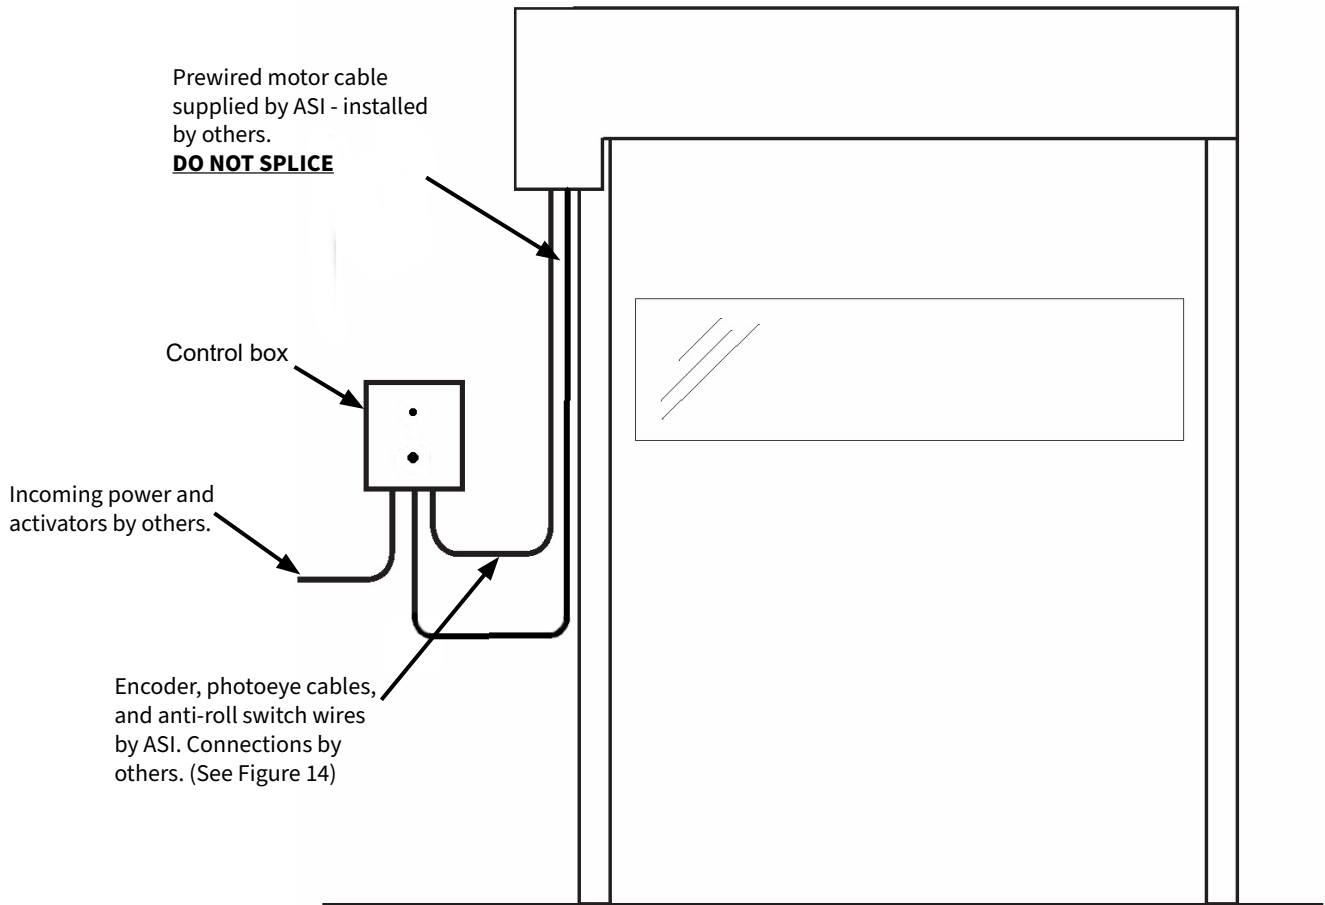

Figure 25: Wiring Installation
1. Prewired cable from motor must not be spliced. Run this cable to control box (Figure 25).
3. All connections for motor, encoder, photoeyes, anti-roll switch, and any activation devices should be made per the schematic. All wiring connections from harness must be terminated in the control box (see Figures 25 & 26).